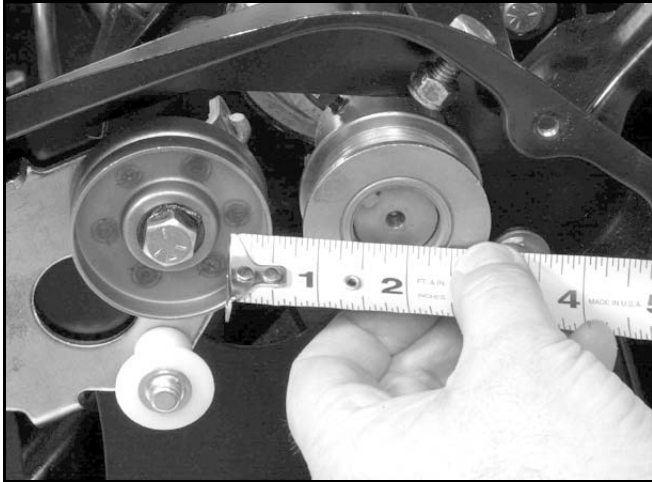

Figure 23
9. Remove the belt. Push the idler arm down as far as it will go. Measure the distance between the idler pulley and engine pulley at its closest point (Figure 23). Make a note of this distance as it will be needed during assembly.